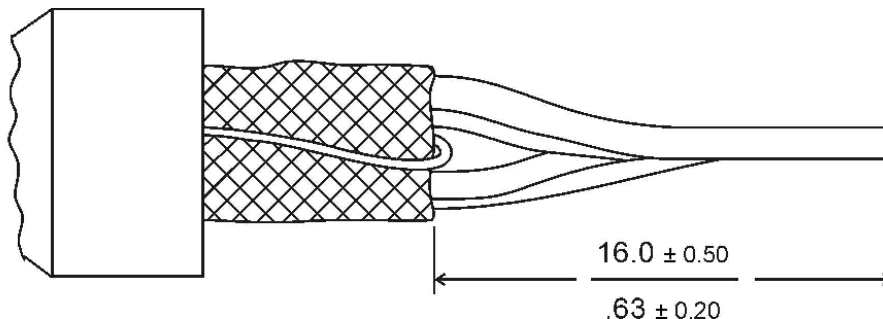

FIGURE 7
- D. Orientate the conductors in the desired sequence and trim off any excess length of the conductors. (Refer to figure 7).